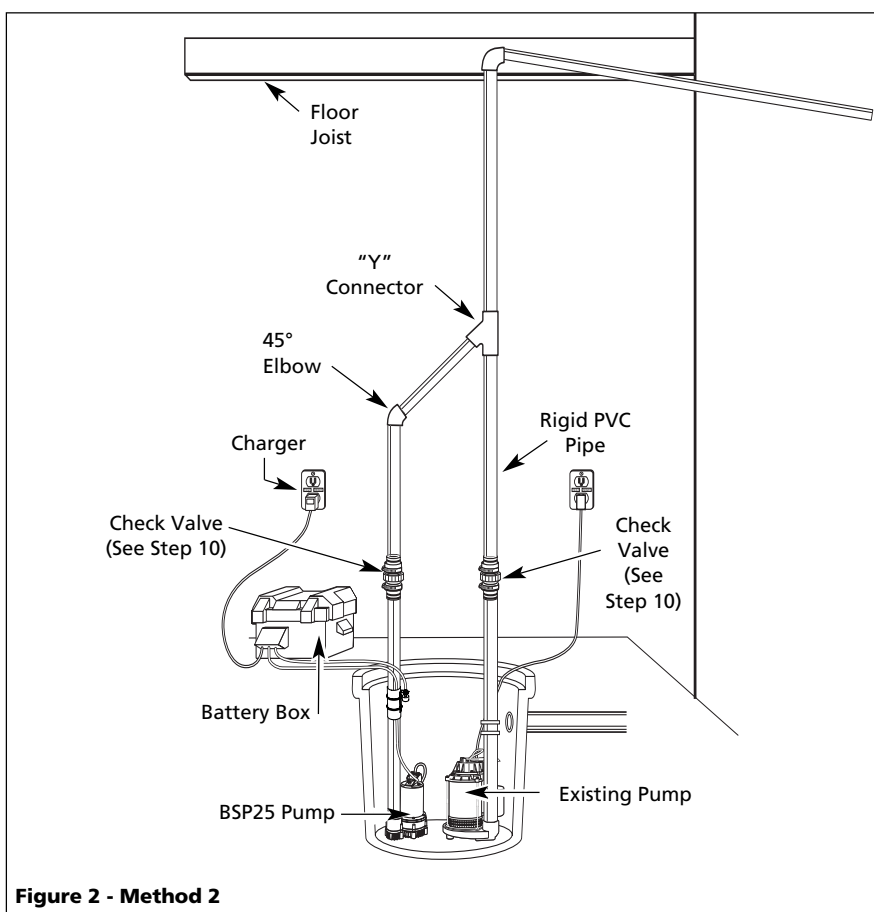

Figure 2 - Method 2
**NOTE:** Check valves can be placed directly in the pump discharge if desired. However, for ease of disassembly, it is recommended that check valves be placed above the sump as shown in Figure 2.